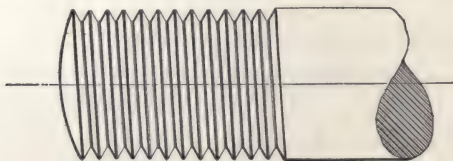

FIG. 42.
**93.** In machine construction, screws are used more frequently as fastening devices than as a means of transmitting motion or producing pressure. Screws used as fastening devices may be divided into two general classes, which are distinguishable from each other by the form of thread used: (1) *Metal screws*, or screws intended to be screwed into metals. (2) *Wood screws*, or screws intended for wood.
**94.** **Metal screws** have either a sharp V thread or the United States standard thread shown in Fig. 42. In the